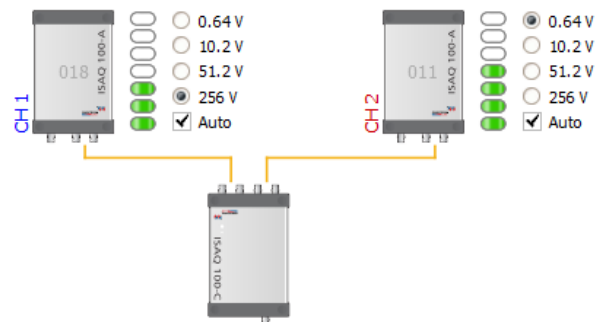

Figure 41 - Setup shown in the GUI
- CH1 has the serial number 018 the scaling is 256V and the maximum amplitude is below 50% (green circles) (see Figure 41 left hand side)
- CH2 has the serial number 011 the scaling is 0.64V and the maximum amplitude is above 50% (see Figure 41 right hand side)